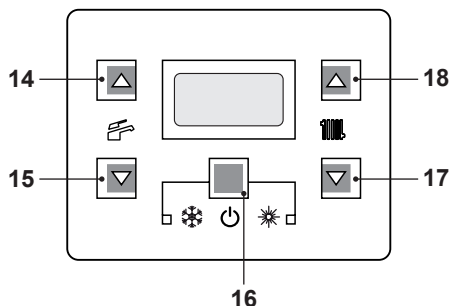
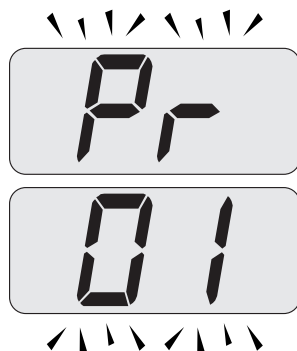
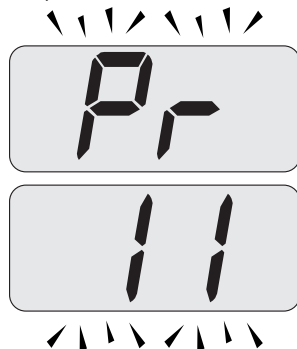

Fig. 8.14
Fig. 8.15
Fig. 8.16
- Enter in "programming mode" by sequentially pressing keys 16 - 17 - 18 (Fig. 8.14) for 10 seconds at the same time until the letters **Pr** that alternate with code **01** are displayed on the LCD display, indicating that "parameter 01" (Fig. 8.15) has been activated.
- Scroll the various parameters using keys 17 or 18 until the letters **Pr** that alternate with code **11** are displayed on the LCD display, indicating that "parameter 11" (Fig. 8.16) has been activated.
- Press keys 16 and 18 (Fig. 8.14) at the
- By pressing key 16 (Fig. 8.14) confirmation of the inserted value is obtained.
- Press keys 16 and 17 (Fig. 8.14) at the same time to exit without changing the value (return to the parameters list Fig. 8.16).
- Press sequentially keys, 16 - 17 and then 18 (Fig. 8.14) and hold in for 10 seconds to exit the "programming mode".